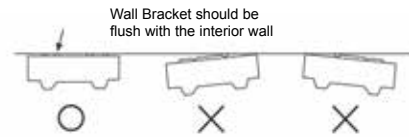

Fig. 9
- B. Mount the wall bracket flush on structural parts (studs) of the wall with proper unit clearances in consideration. (Fig. 1 and Fig. 9)